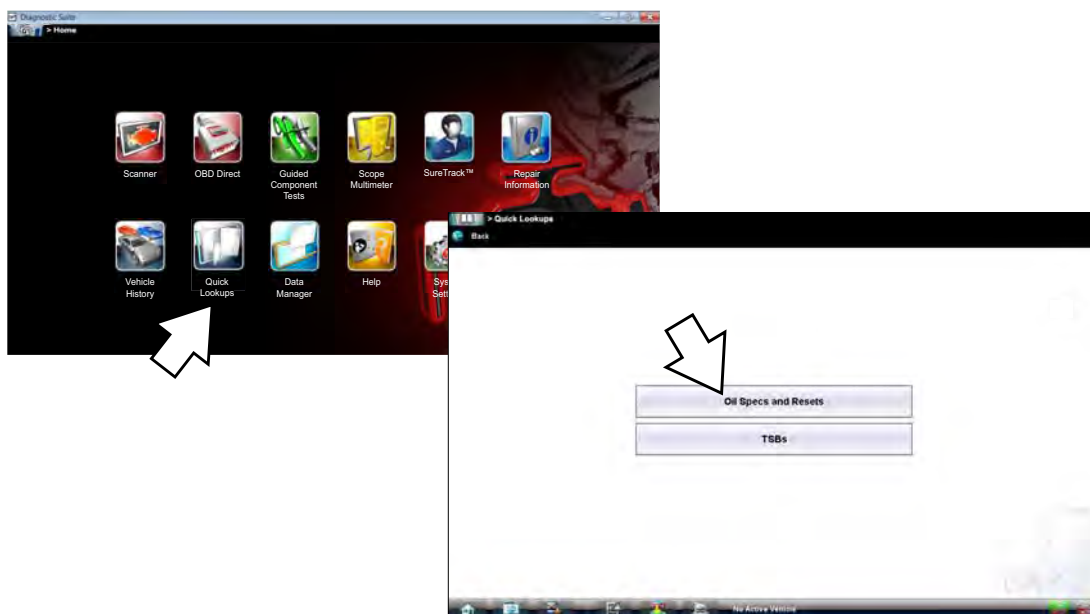

Figure 10-1 Quick Lookups Icon and menu screen
- **From the Home screen** - select the **Quick Lookups** icon (Figure 10-1), then select the **Oil Specs and Resets** menu option, then proceed to Step 1.